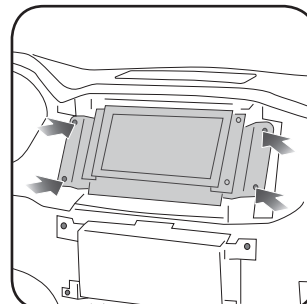

Fig. 1.7
7. Remove four (4) 7mm screws holding the screen. Unplug and remove the OEM screen. (Fig. 1.7)